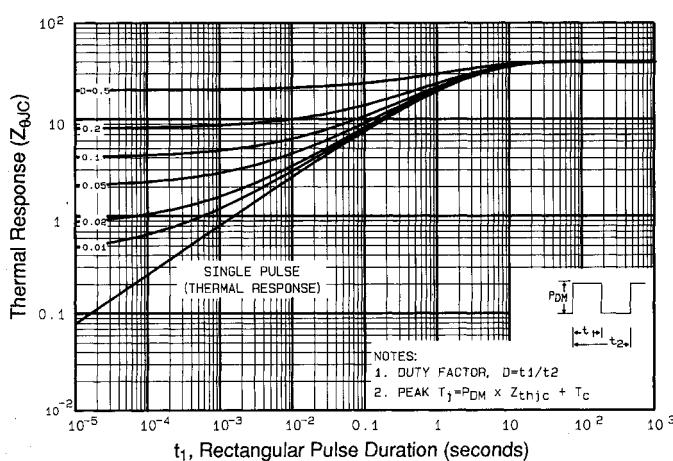

Fig 11. Maximum Effective Transient Thermal Impedance, Junction-to-Case
① Repetitive rating; pulse width limited by max. junction temperature (See Figure 11)
③ $I_{SD} \leq 10\text{A}$, $di/dt \leq 90\text{A}/\mu\text{s}$, $V_{DD} \leq V_{(\text{BR})\text{DSS}}$, $T_J \leq 150^\circ\text{C}$ ② $V_{DD}=25\text{V}$, starting $T_J=25^\circ\text{C}$, $L=16\text{mH}$